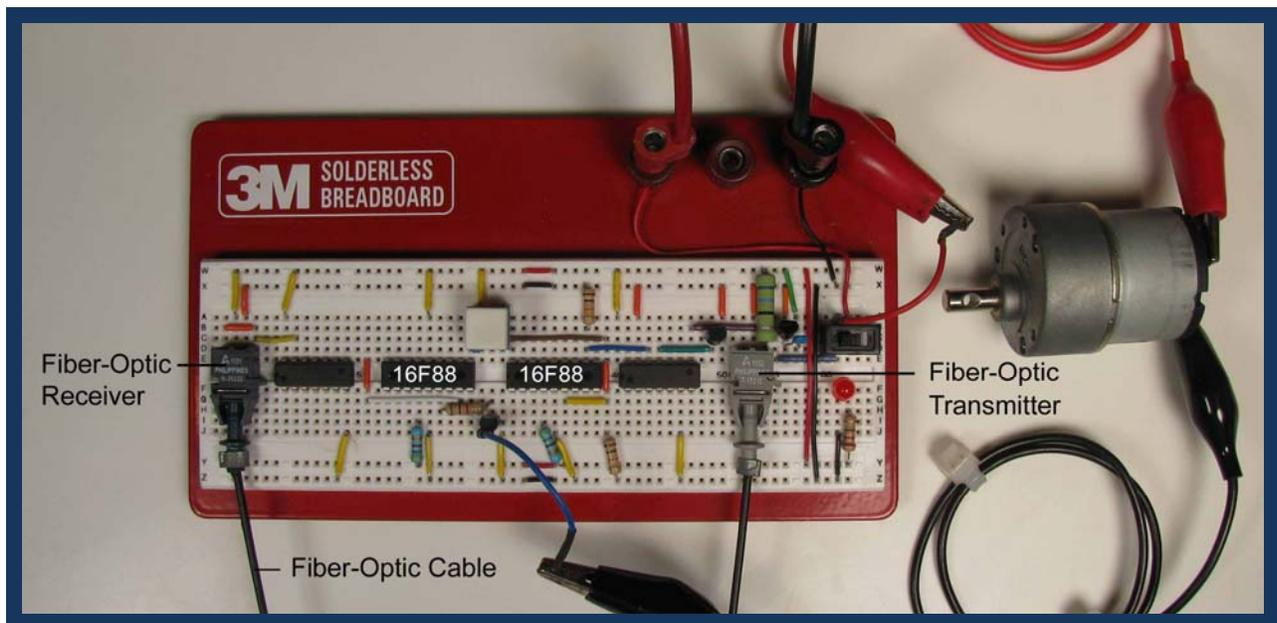

Figure 9: Using Light to Communicate PWM Signals from a Microcontroller
- For example, Figure 9 below pictures the PIC16F88 microcontroller on the right sending an electronic (the medium) asynchronous serial communication protocol signal (the language) to the fiber-optic transmitter. The transmitter converts the electronic signal to light pulses (a change in medium) which are sent through the fiber-optic cable to the fiber-optic receiver. The fiber-optic receiver converts the light pulses back into an electronic signal which is sent to the PIC16F88 on the left. This microcontroller then uses this signal to control the motor speed.